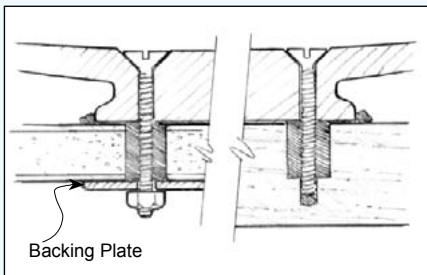

Figure 18 Tighten the fasteners until a small amount of epoxy squeezes from the joint.
5. Place the hardware in position. Insert and tighten fasteners until a small quantity of mix squeezes out of the joint (Figure 18).